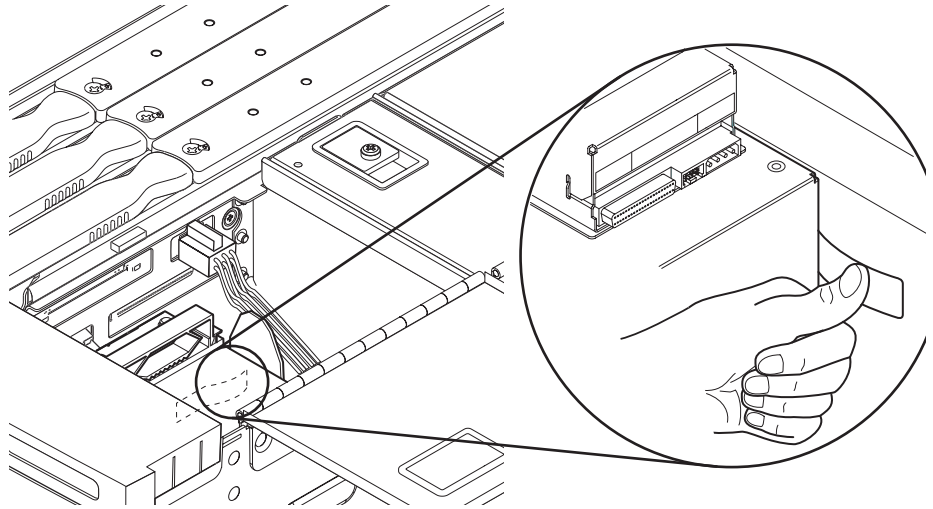

FIGURE 5-8 Releasing the Removable Media Module Retaining Spring
11. Locate the convex spring behind the right side of the removable media module. Press it in so it becomes concave (FIGURE 5-8).